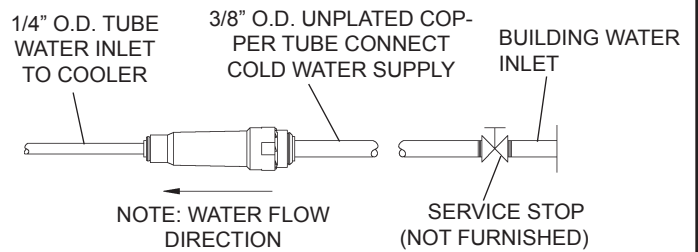

Figure 11 – Water Supply Connections
1. **Make** water supply connections (Fig 11). Install a shut-off valve and union connection to building water supply (valve and union not provided). Turn on water supply and flush the line thoroughly.